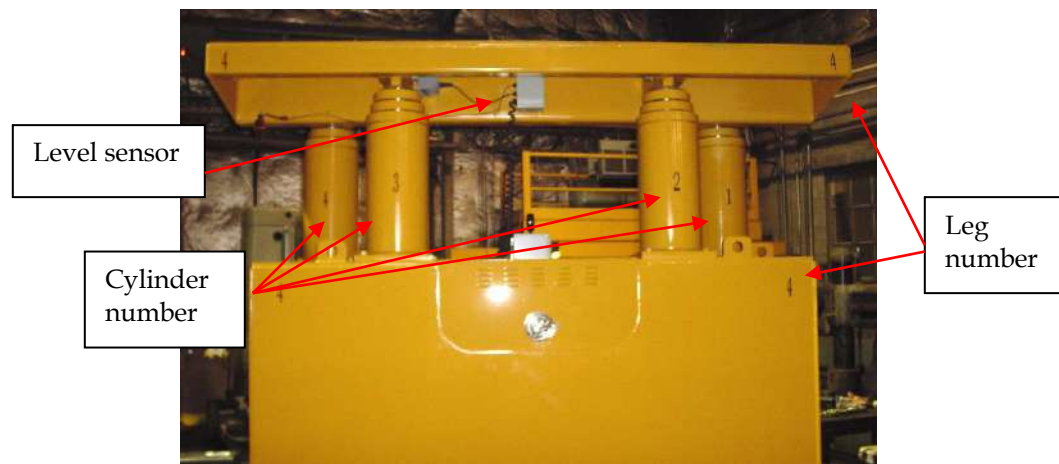

Figure 6.3 - Leg and Cylinder Numbers
2. Each leg is physically and electronically numbered 1 through 4. See figure 6-3. Legs 1 & 2 and legs 3 & 4 must be set up as a pair across from each other. When operating four legs, legs numbered 1 through 4 must be used. To change leg numbers see "To Change Leg Numbers".